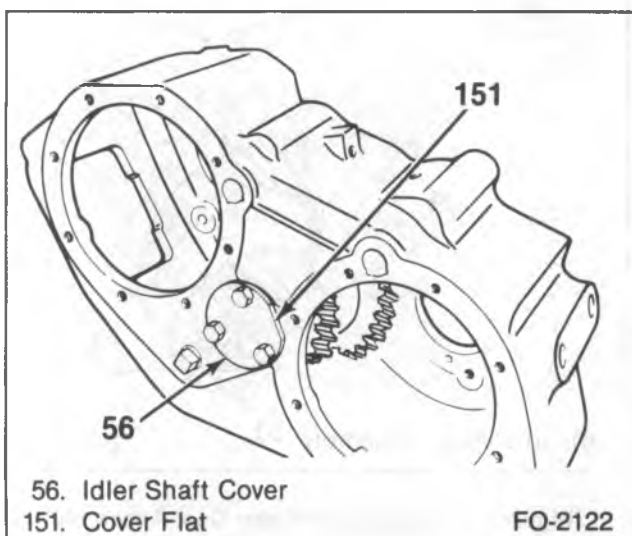

Figure 13—Idler Shaft Cover Alignment
7. Idler shaft cover gasket (55).
8. Idler shaft cover (56) (figure 13).
9. Idler shaft cover bolts (58).